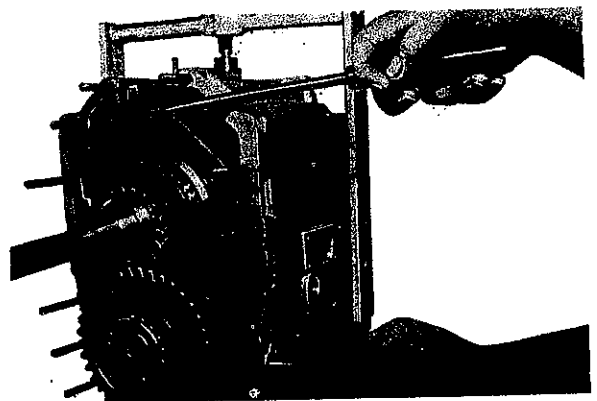

Fig. 48
4. Slide joint pins (605 and 615 or 624) through bores of housing and shift forks. It will be of advantage to lift forks with a screw driver for better alignment of bores (Fig. 48). Place seals (625 or 634) underneath the two joint pins (605). Screw-in hex. screws (623 or 633) with spring washers (622 or 632) underneath and tighten.